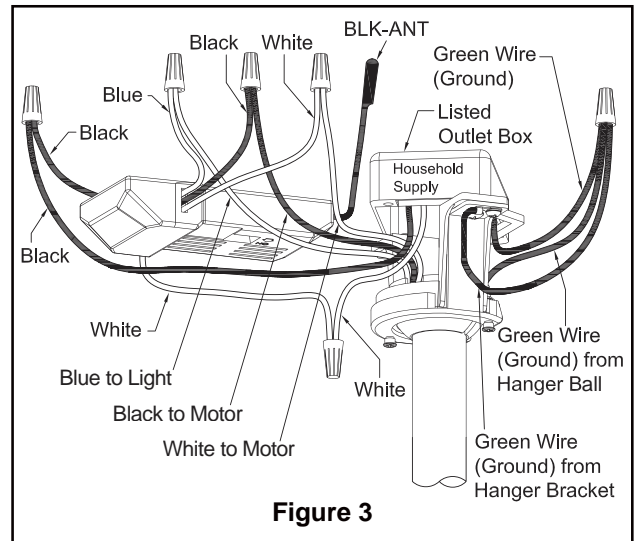

Figure 3
2. Connect green wires from hanger bracket and Downrod / hanger ball assembly to bare (ground) wire using wire connector. Connect black wire from receiver unit marked "AC IN L" to black supply wire using wire connector. Connect white wire from receiver unit marked "AC IN N" to white supply wire using wire connector. Connect white wire from receiver unit marked "TO MOTOR N" to white wire from fan using wire connector supplied with receiver unit. Connect black wire from receiver unit marked "TO MOTOR L" to black wire from fan using wire connector supplied with receiver unit. Lastly, connect blue wire from receiver unit to the blue fan light wire using wire connector supplied with receiver unit. (Figure 3)